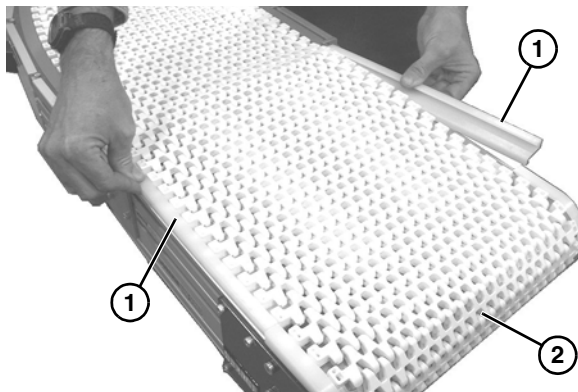

Figure 18
10. Slide the top wear strips (Figure 18, item 1) with wide lip facing up, under the conveyor belt (Figure 18, item 2) catching the bottom lip on conveyor frame, to cover the belt tabs.